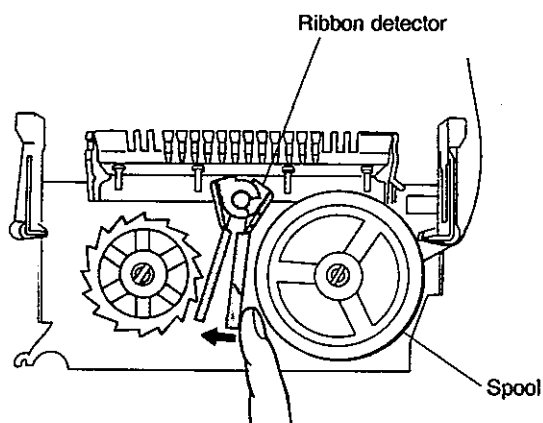

Fig. 9
1) Install one of the ribbon spools as shown in Fig. 9, while moving the ribbon detector so that the ribbon is not caught.